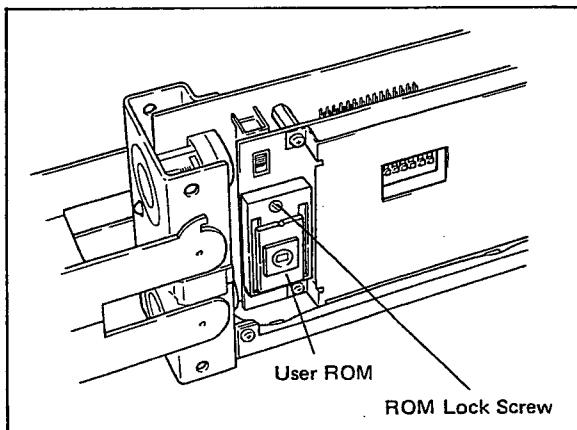

Figure 6-5. Installing and Removing the User ROM.
- (1) Removing the user ROM.
- d) Holding the ROM with one hand, lift it out carefully so as not to damage the ROM pins. The ROM can be easily removed in this manner (see Figure 6-5).